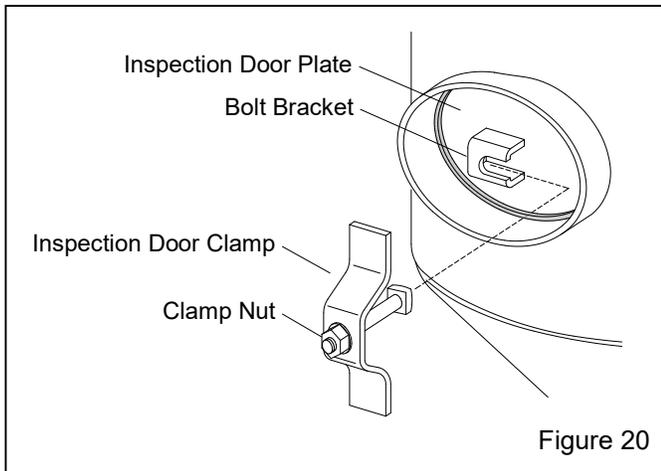

Figure 20
6.7. Replacing the Pop-Up Valve – Figure 20
1. Loosen the inspection door clamp nut enough to slide the clamp bolt from behind the bolt bracket and then remove the clamp and bolt assembly, as shown in Figure 20.